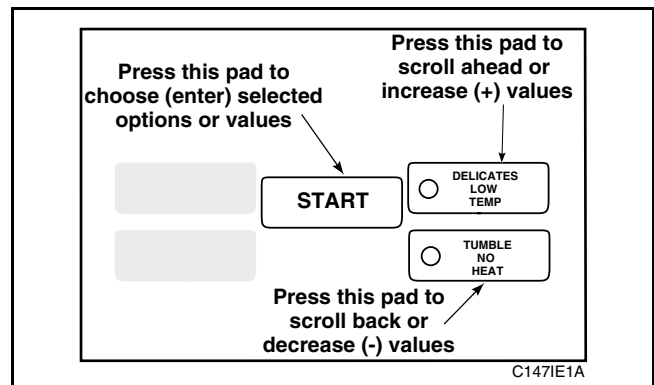

Figure 33
5. Press the LOW TEMP (+) pad or the NO HEAT (-) pad to increase or decrease the current hour to the desired hour, *Figure 33*.